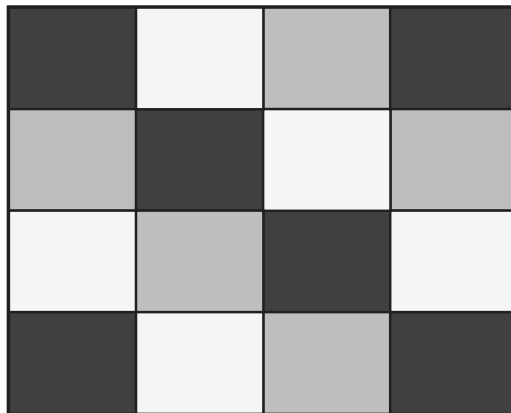

Figure 5-2. Display Test Pattern
2. Press **F3** (CALIBRATE). The display shows a dark test pattern, see Figure 5-2.